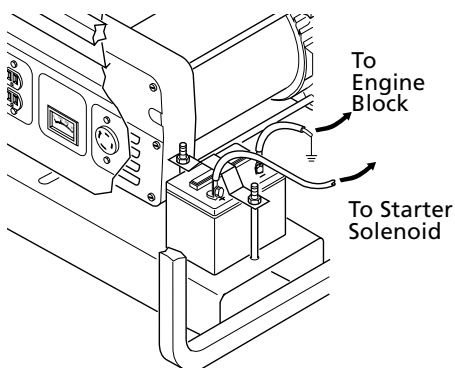

Figure 17 – Connecting Positive and Negative Cables to Battery (Model 3W739D Shown)
2. Locate the red, positive (+) battery cable from starter solenoid. Connect it to the positive (+) battery terminal (See Figures 17 and 18).